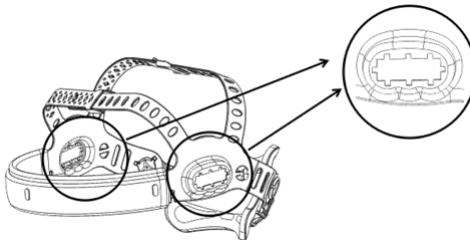

Fig. 4
3. Loosen the side knobs to slide the helmet forward or backward along the side slots. This adjusts how close the viewing lens is to your eyes (Fig. 4).